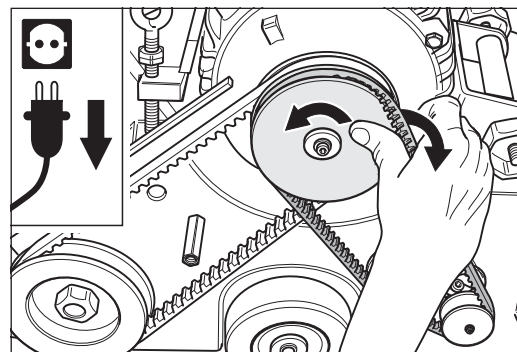

Fig. 51 Remove the suction V-belt.
- 7 Turn the motor pulley and allow the suction V-belt to run off the motor pulley (fig. 51).